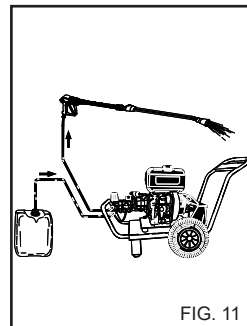

FIG. 11
1) After using with detergent, flush out the intake circuit; place the detergent suction hose (fig. 11) in a tank of clean water and let the pump run for 1 minute with the dosing tap turned fully on and the lance in detergent delivery condition.